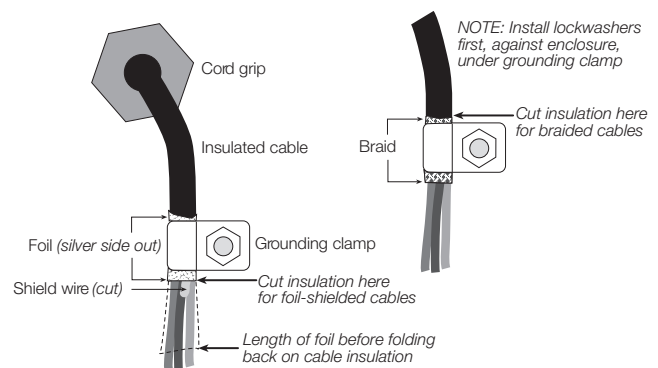

Figure 5-1. Grounding Clamp Attachment for Foil-Shielded and Braided Cabling
- For cables with foil shielding, strip insulation and foil from the cable half an inch (15 mm) past the grounding clamp (see Figure 5-1). Fold the foil shield back on the cable where the cable passes through the clamp. Ensure silver (conductive) side of foil is turned outward for contact with the grounding clamp.
- For cables with braided shielding, strip cable insulation and braided shield from a point just past the grounding clamp. Strip another half inch (15 mm) of insulation *only* to expose the braid where the cable passes through the clamp (see Figure 5-1).
- Route stripped cables through cord grips and clamps. Ensure shields contact grounding clamps as shown in Figure 5-1. Tighten grounding clamp nuts.